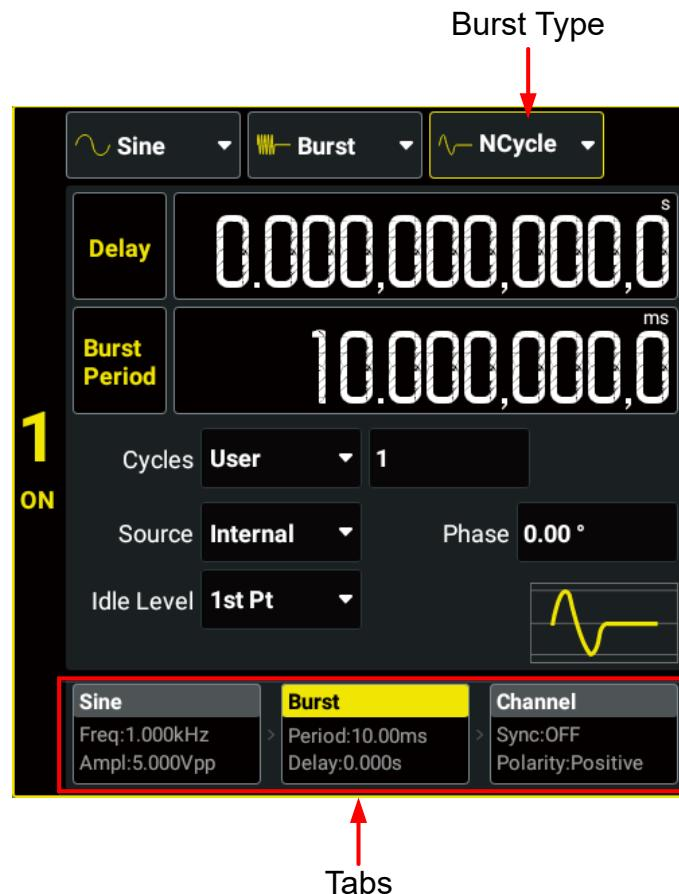

Figure 8.1 Burst Setting Interface
DG900 Pro can output two types of bursts: N-Cycle Burst (default) and Gated Burst. In the Burst Setting Interface (Figure 8.1), click or tap the "Burst Type" drop-down button to select "NCycle" or "Gated". The table below illustrates the trigger sources and waveform parameters available for the two burst types.
- **Manual:** Manual trigger is only available for N-Cycle Burst mode. When manual trigger is selected, click or tap the manual trigger key  in **Figure 8.1** interface or press the front-panel **Trigger** key to initiate a burst output immediately. If the output of the corresponding channel is not enabled, the trigger will be ignored.